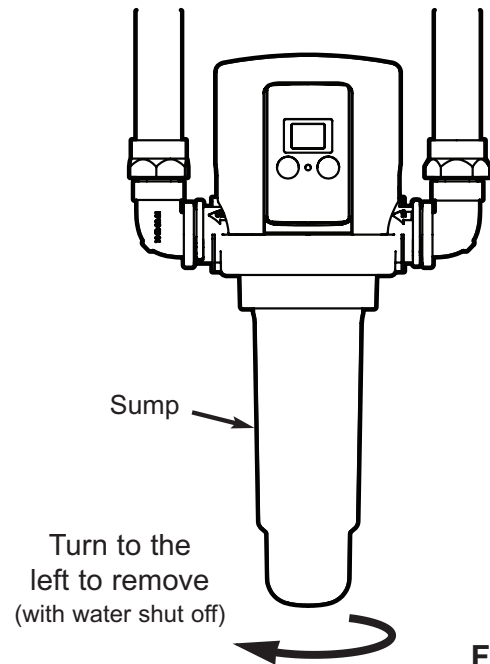

FIG. 18
4. Remove the sump by turning it to the left to unscrew it from the AFF head (See Figure 18). Be prepared for water to drip out of the AFF head when the sump is removed.